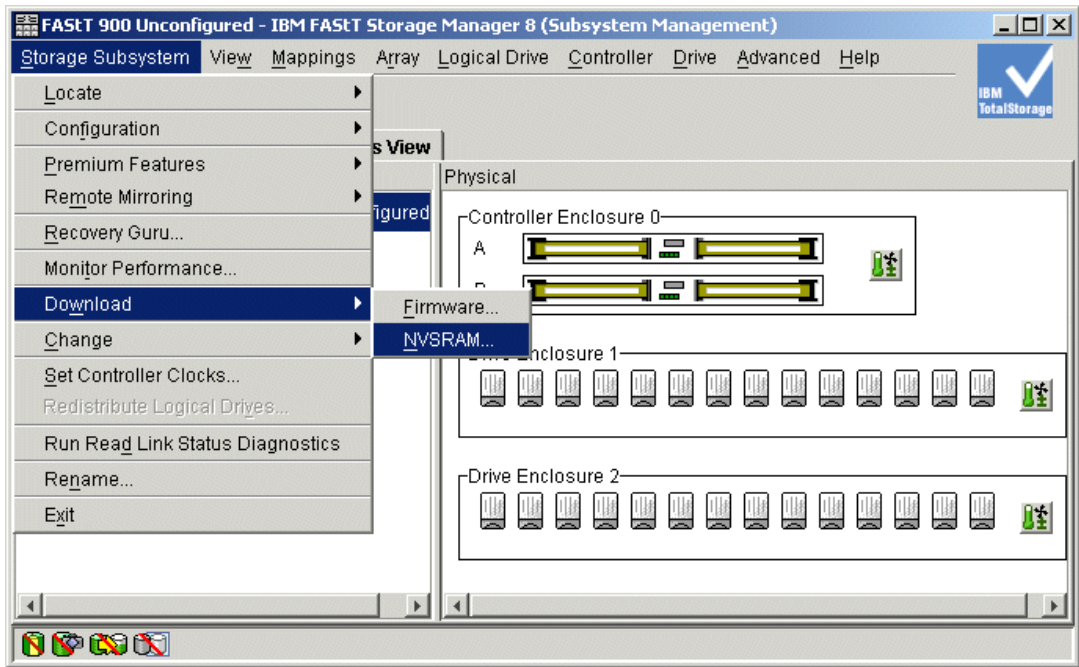

Figure 11-7 Subsystem Management window: Download -> NVSRAM
- a. Highlight the storage subsystem again and click **Storage Subsystem -> Download -> NVSRAM** as shown in Figure 11-7 on page 339.